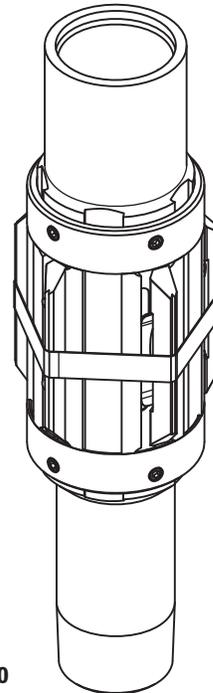

Figure 10
- 5.) Drop the second retaining ring onto the torque anchor. Ensure the retaining ring is seated fully and all anchor blocks are secured by the retaining ring. Secure the ring using the hex-socket cap screws, and torque to at least 30 ft-lb. (Fig 10.)